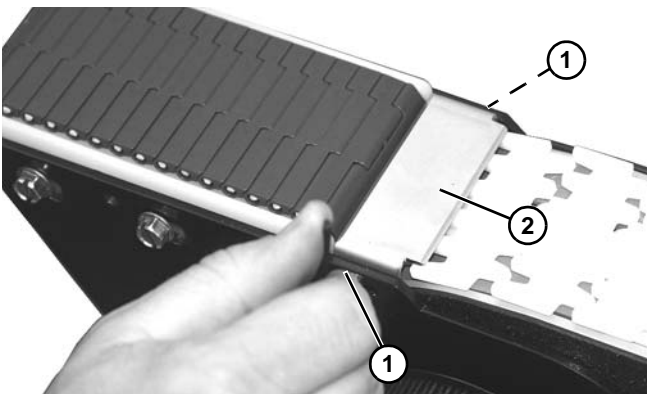

Figure 147
6. Remove two socket head screws (Figure 147, item 1) and pinch guard (Figure 147, item 2).